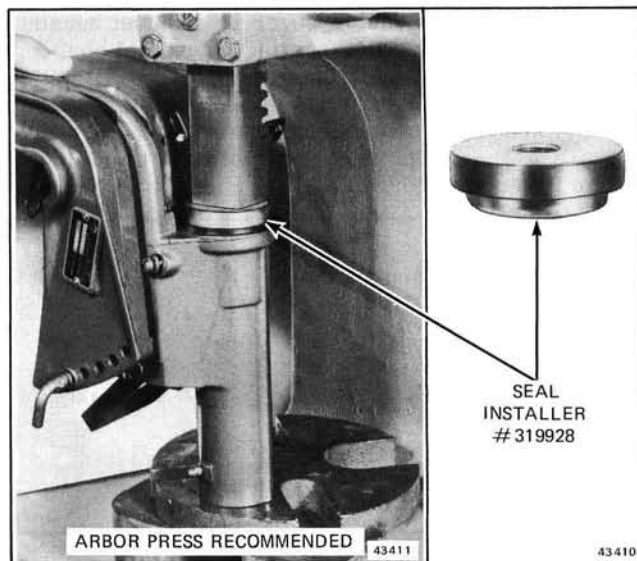

Figure 6-14. Installing Pivot Tube Seal
1. Using Seal Installer (Special Tool #319928), and an arbor press, press upper seal into swivel bracket. See Figure 6-14.